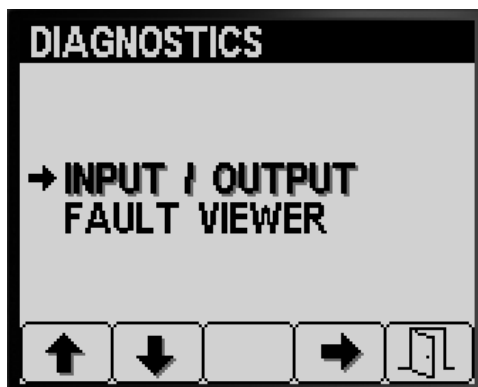

Figure 84
1. Press button 1 or 2 on the Diagnostics screen until you reach the INPUT/OUTPUT option (Figure 84).
4. Press button 5 to exit the INPUT/OUTPUT screen, and return to the DIAGNOSTIC screen (Figure 84).
2. Press button 3 to select the INPUT/OUTPUT entry (Figure 84).